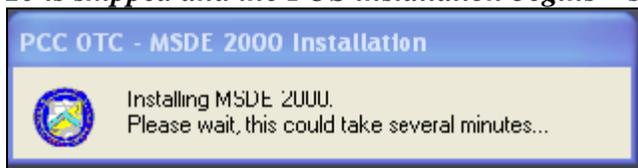

Figure 2.6
10. The system may prompt that it is 'Installing MSDE 2000' as pictured in Figure 2.6, and to please wait. MSDE stands for Microsoft SQL Server Desktop Engine™, which is required to run the POS software. The installation of MSDE can take as long as 5 minutes to complete.